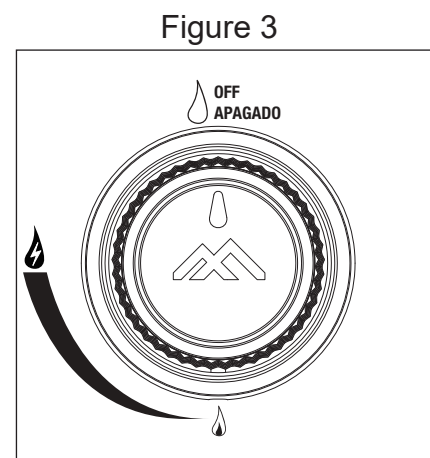

Figure 3
1. Make sure control knobs are in the "OFF" position (Figure 3).
2. Make sure control knobs are in the "OFF" position (Figure 3).
3. All control knobs must be in the "OFF" position (Figure 3).